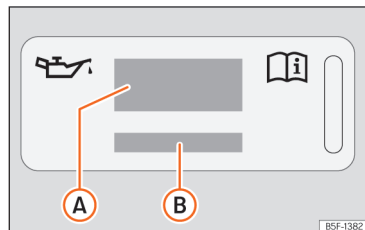

Fig. 213 In the engine compartment: engine oil label
Key to the >>> **Fig. 213**:
If the engine oil has to be topped up, use one of the oils shown on the label >>> **Fig. 213**.
- If the label showing the engine oil specifications is missing >>> Fig. 213, please contact a specialist workshop.